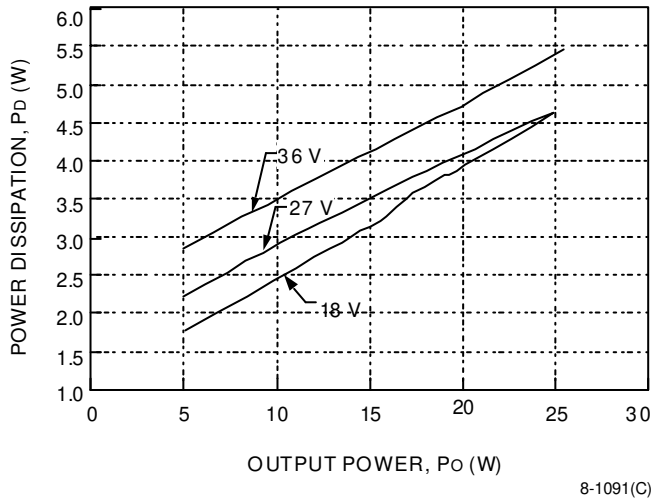
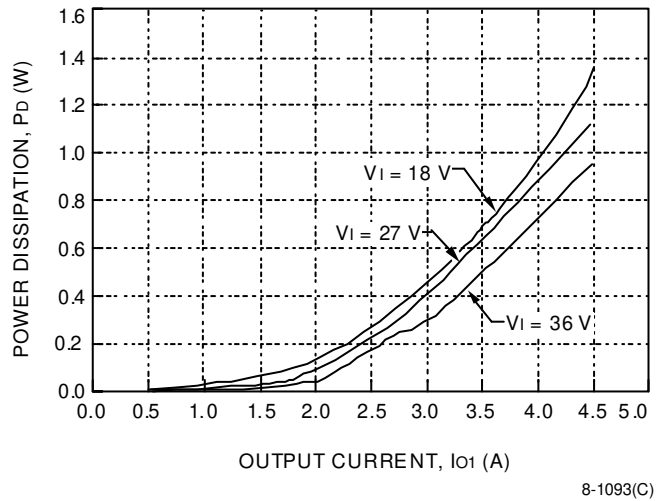

Figure 23. DC025ABK-M Fixed Losses, Pp
Figure 25. DC025ABK-M, DC025ACL-M Losses, Associated with 5 V Output, Ps1
The maximum operating temperature of the DC025 Triple Output-Series Power Modules at a given operating condition can be predicted by combining the power dissipation curves (Figures 23 through 27), the power derating curve (Figure 28), and the thermal resistance curve (Figure 28).
Use Figures 23 through 28 and the steps below to predict the safe operating region for many different operating and environmental conditions.
2. Use  $P_{\text{ototal}}$  with the appropriate figure (Figure 23 or 25) to determine the fixed losses ( $P_P$ ) associated with operating at  $P_{\text{ototal}}$ . These losses are independent of which output the load is being drawn from.
3. Use the desired output current ( $I_{o1}$ ) with Figure 25 to determine  $P_{S1}$ , which is the additional power being dissipated due to loading of the main output.
4. Repeat Step 3 for outputs 2 and 3 using the appropriate figure (Figure 23 or 27) to determine  $P_{S2}$  and  $P_{S3}$ , which is the power dissipated due to loading of the auxiliary outputs.
$$\begin{aligned} P_P &= 4.5 \text{ W (from Figure 23)} \\ P_{S1} &= 0.22 \text{ W (from Figure 25)} \\ P_{S2} &= 0.07 \text{ W (from Figure 23)} \\ P_{S3} &= 0.07 \text{ W (from Figure 23)} \end{aligned}$$